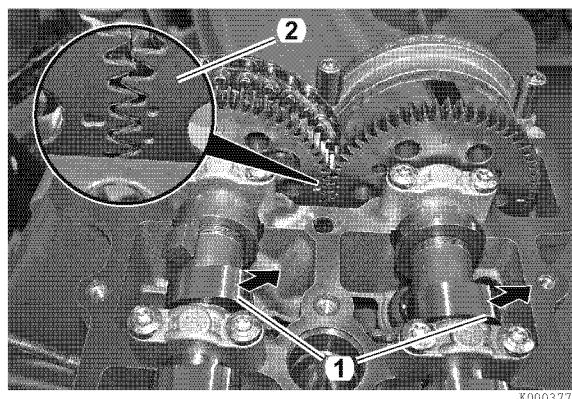

Figure 5-73
2. Rotate the crankshaft in the normal running direction until No. 1 cylinder is at TDC of the power stroke. The front lobe of each camshaft (1, **Figure 5-73**) will be facing the exhaust side.
3. Verify position by checking that the camshaft timing marks on gears are aligned (2, **Figure 5-73**). The single mark on intake camshaft gear must fall between the two marks on the exhaust camshaft gear.